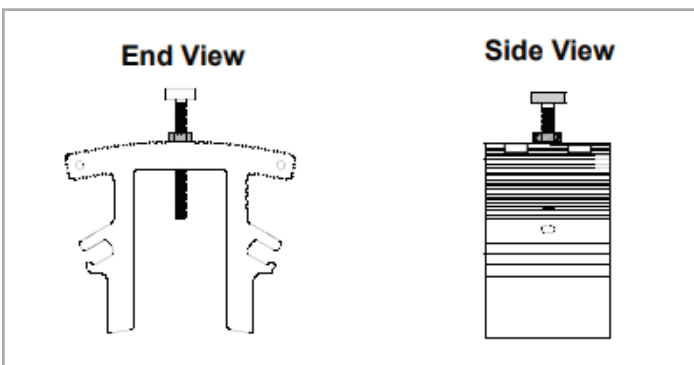

Figure 96: General clamping fixture block
The General Clamping Fixture (GCF) acts as a permanent transducer holder. The fixture has two blocks (see Figure 96 below) that are used for both even-traverse and odd number of-traverse methods. Steel straps secure the blocks to the pipe for a permanent installation. To install the GCF, the blocks must first be positioned using the spacing dimension (S) calculated by the flowmeter. Then, the transducers are mounted into the blocks.